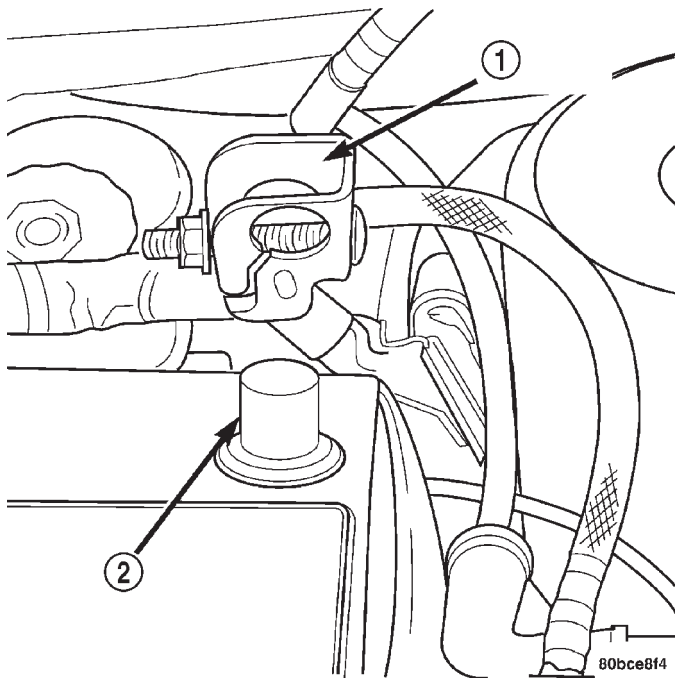

Fig. 3 Battery Negative Cable Remove/Install
(1) Check the fuses in the fuse block. If OK, go to Step 2. If not OK, repair the shorted circuit or component as required and replace the faulty fuse.
(2) Disconnect and isolate the battery negative cable (Fig. 3). Unplug the wire harness connector at the SKIM. Check for continuity between the ground circuit cavity of the SKIM wire harness connector and a good ground. There should be continuity. If OK, go to Step 3. If not OK, repair the open circuit to ground as required.
(3) Connect the battery negative cable. Check for battery voltage at the fused B(+) circuit cavity of the SKIM wire harness connector. If OK, go to Step 4. If not OK, repair the open circuit to the fuse in the fuse block as required.
- (1) Open hood.
- (2) Disconnect and isolate the battery negative remote cable (Fig. 3).
- (3) Using a trim stick (special tool #C-4755) or equivalent, gently pry switch up and out of mounting bracket.
- (4) Disconnect wire harness connector from hood ajar switch.
- (5) Remove switch from vehicle.
- (1) Disconnect and isolate the battery negative remote cable (Fig. 3).
- (2) Remove Lower Instrument Panel Cover. Refer to Group 8E-Instrument Panel and Systems, Lower Instrument Panel Cover Removal and Installation.
- (3) Remove the steering column upper and lower shrouds. Refer to Group 8E-Instrument Panel and Systems, Steering Column Shroud Removal and Installation.
- (4) Disengage the steering column wire harness from the Sentry Key Immobilizer Module (SKIM).